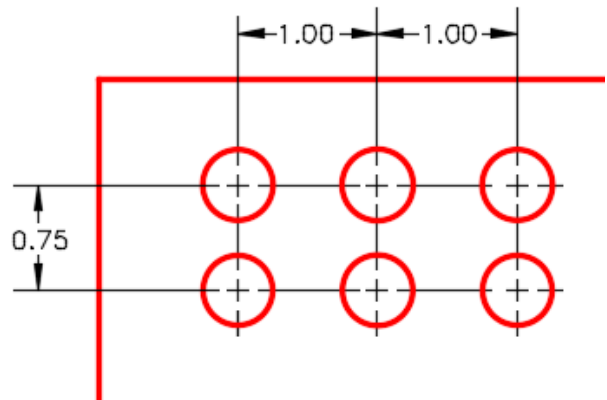

Figure Step 6
Step 6 Study the figure. It shows the hole pattern that will be used in the 3D ARRAY command. (Figure step 6)